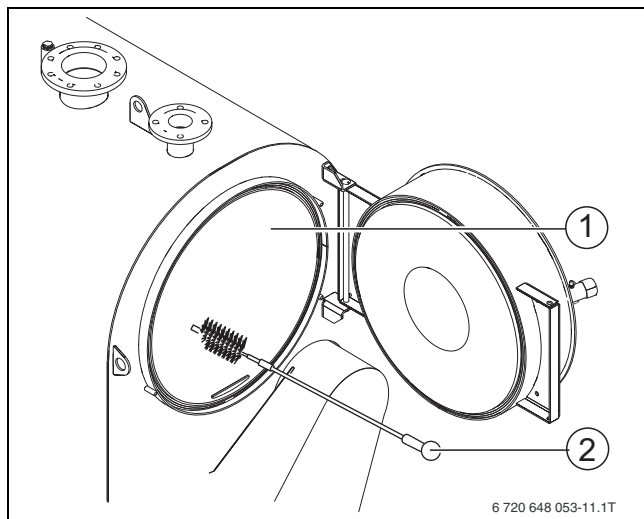
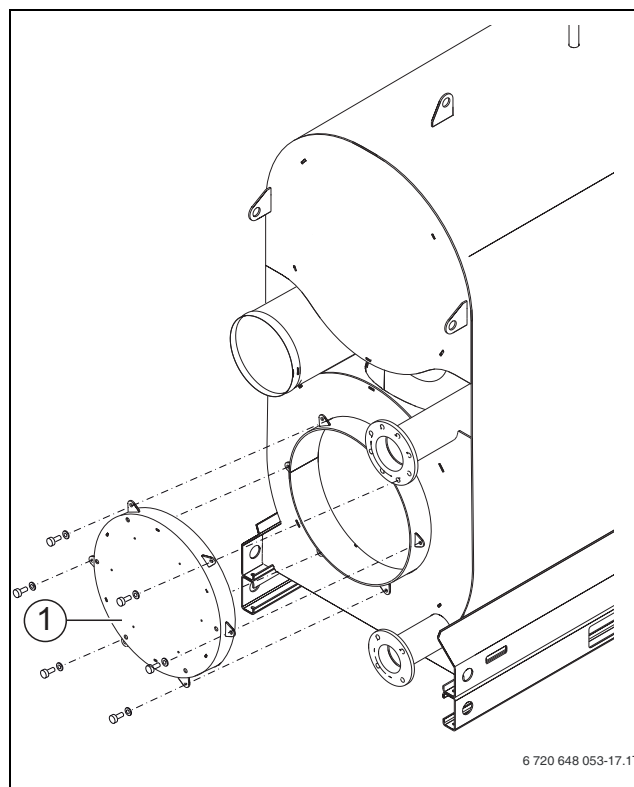

Fig. 31 Cleaning the heating surfaces
Fig. 32 Removing the reversing chamber cover
- Clean the heating surfaces of the combustion chamber (→ fig. 31, [1]) with the cleaning brush [2].
- Remove all loose combustion residues from the combustion chamber (→ fig. 31, [1], page 31), the hot gas flues and the reversing chamber (→ Fig. 32, [1]).